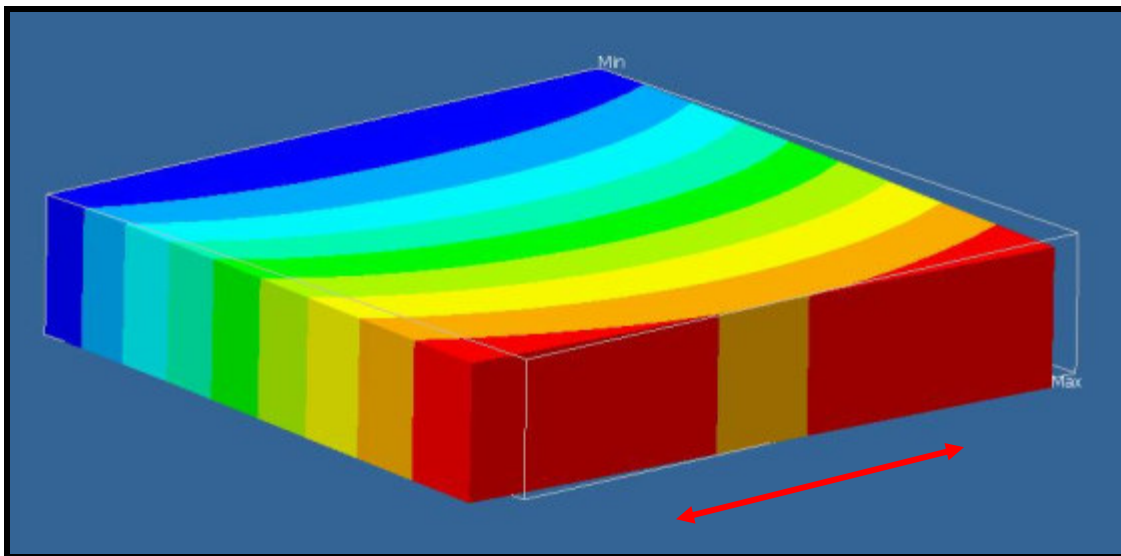

**Figure 9- First Frequency Mode – First Bending**
Step 9: Click on the First Mode Frequency shown in Fig 9.